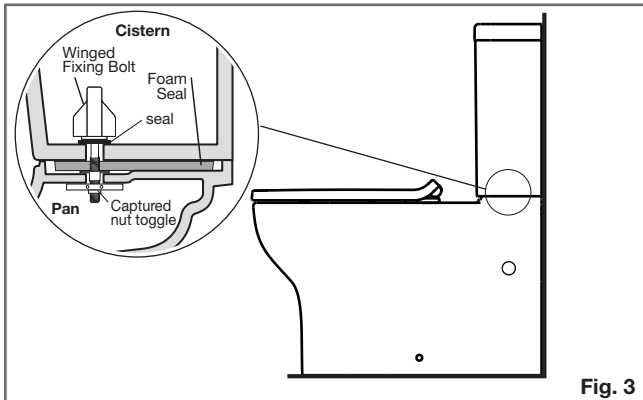

Fig. 3
- 3- Insert the Winged Fixing Bolts through the cistern fixing holes into the threaded fixing holes located in the pan. Gradually tighten the left and right hand nuts by hand to firmly secure the cistern to pan, as detailed in **Fig. 3**.